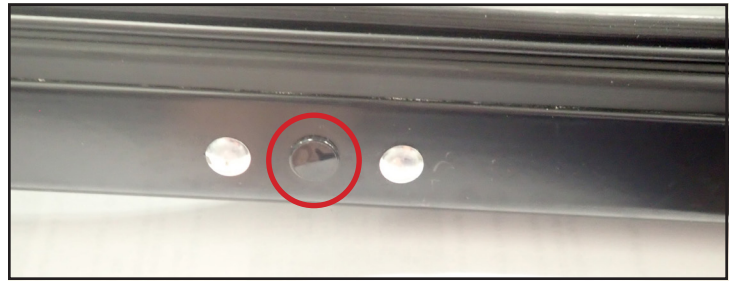

Fig. 22. Plastic cap in the door's bottom.
- i. Remove the plastic cap. See fig. 22